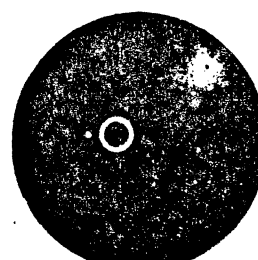
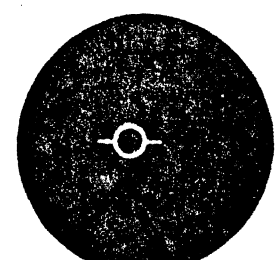

FIG. 20
FIG. 21
b. Figure 20 shows the same work done with a star, and figure 21 with the astigmatized image of a star.